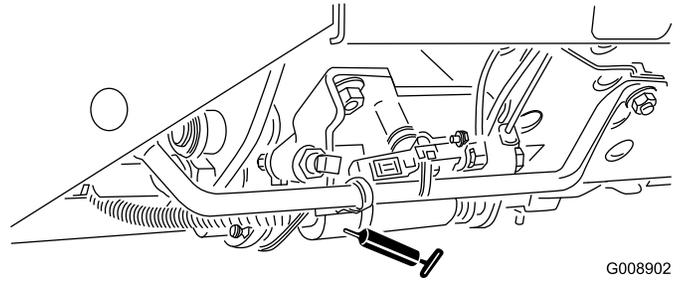

Figure 61
- Mow/transport slide (Figure 61)